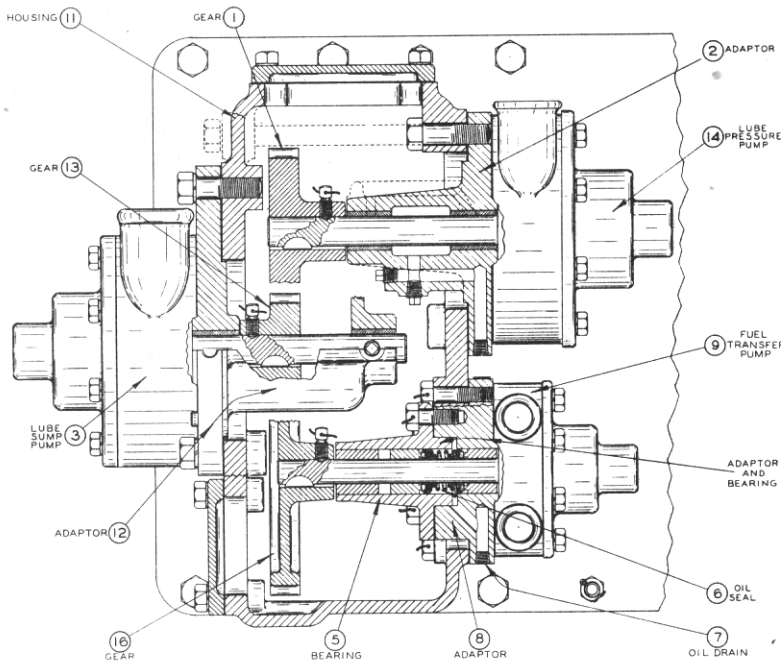

FIG. T-1
The lubricating oil pump drive is shown in Fig. T-1. The pressure pump (14) and scavenge pump (3), together with the fuel transfer pump (9) are mounted in a common housing on the after end of the control side of the engine. The lubricating oil